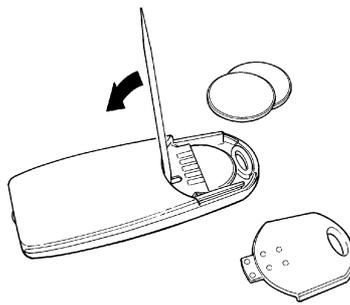

Fig. 5
2. Insert a small pointed tool in the slit (Fig.5) and push out the batteries